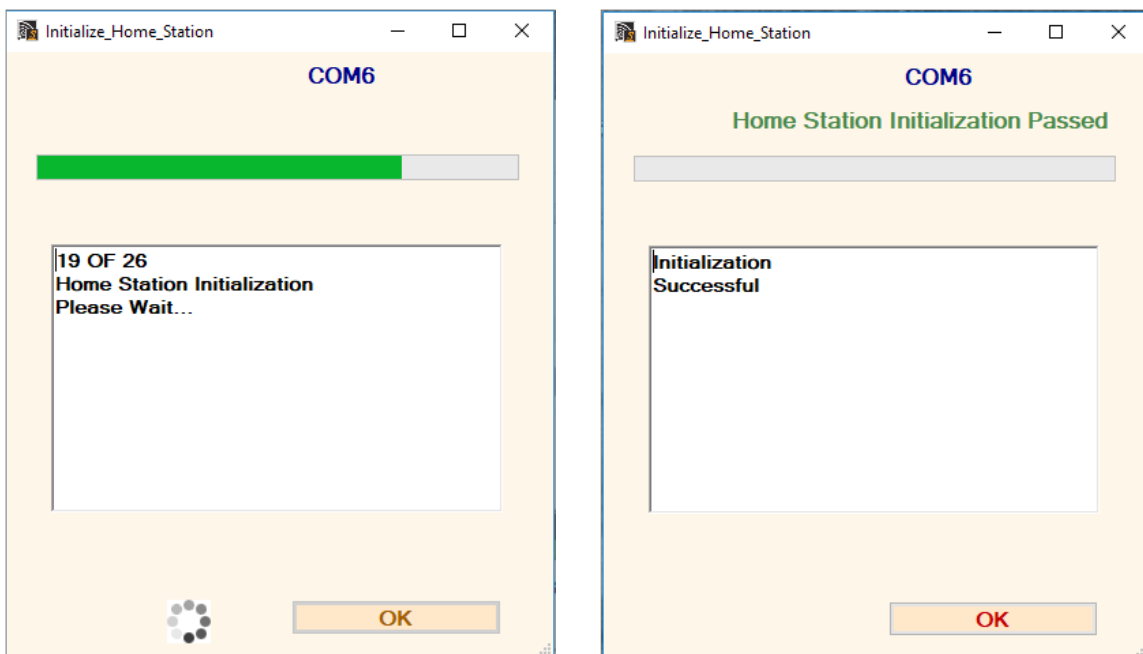

Figure 5-2 STS Edge System Initialization
- 10) Click OK in the Initialize Home Station Window, and the STS Edge System will start collecting data at the specified time. Figure 5-2 shows a successful initialization.